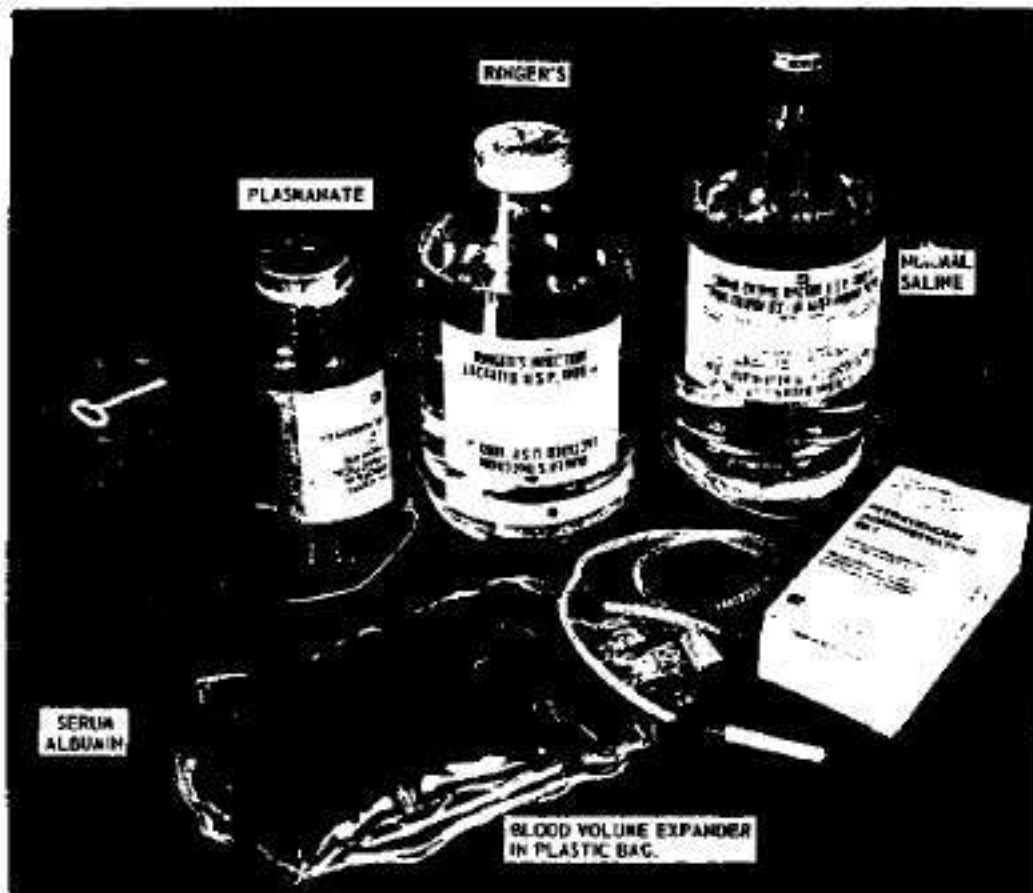

Figure 3-5. Blood volume expanders and infusion set.
(1) Any wound which penetrates the belly, chest, neck, or pelvis. Internal bleeding is a likely possibility.
(2) Any wound of the arms or legs which has damaged a portion of tissue at least as big as a fist. Many bullet wounds of the thigh are in this category.
(3) Any wound which includes a fracture of a large bone. Blood loss of at least 1 quart frequently accompanies a fractured femur, for example.
(4) Any wound which results in blood loss of 1 quart or more. The blood may be visible on the ground, for example. If the blood has completely soaked a standard field dressing, this indicates loss of nearly a quart into the dressing. Treatment for shock is indicated. (A useful experiment you might try is to pour water into a dry field dressing to see how much water it takes to saturate it.)
c. Available Intravenous Solutions. Figure 3-5 shows several intravenous solutions and an intravenous injection set. One way